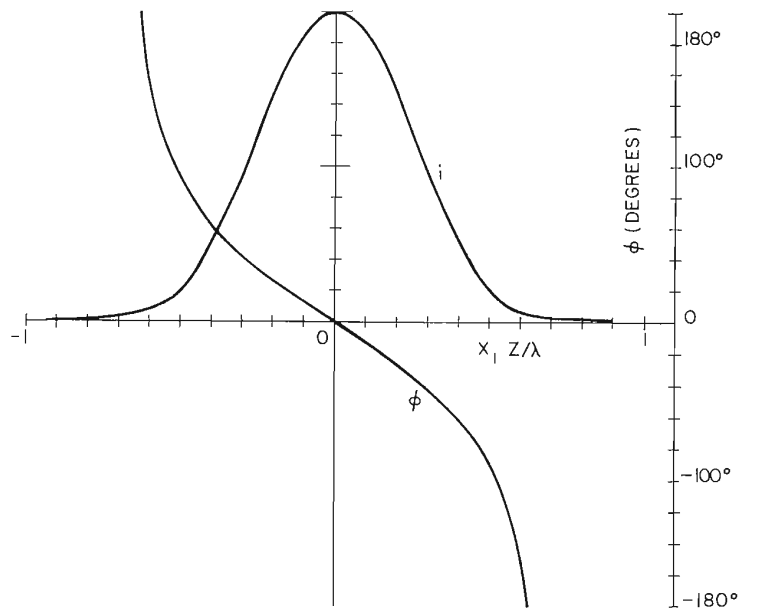

FIG. 12. The current distribution of Fig. 11, shown in terms of total current magnitude and phase angle.
It should be noted that the current distribution of (22) lags that of (18) by  $90^\circ$ . Then the total current distribution and the corresponding phase angle to obtain the pattern C of Figs. 7 and 9 are given in Fig. 12.